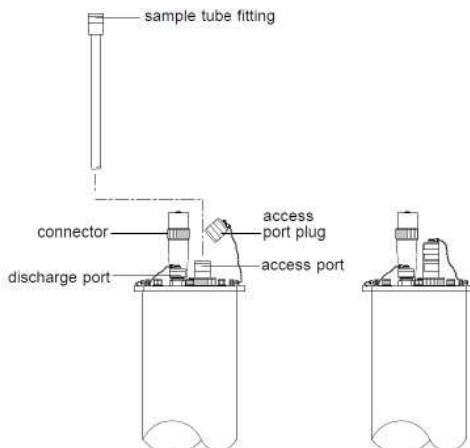

Figure 2-2: Reference Points for Dedicator® Installation
7. Thread and tighten the access port plug into the top of the sample tube fitting (see Figure 2-2).